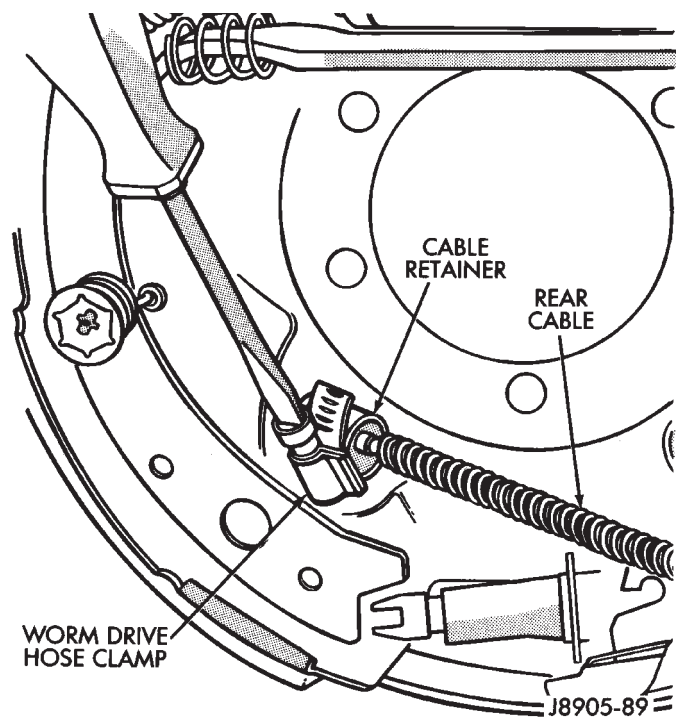

Fig. 40 Cable Retainer
(5) Remove secondary brake shoe and disconnect cable from lever on brake shoe.
(6) Compress cable retainer with worm drive hose clamp (Fig. 40) and remove cable from backing plate.